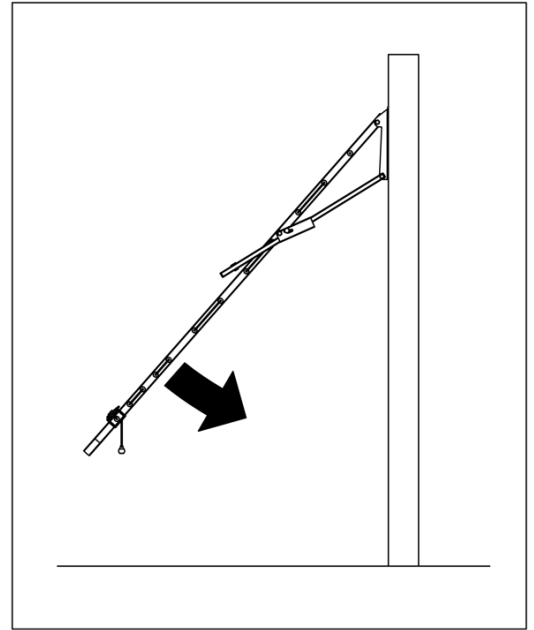

Fig 13. Lower the Clothesline.
- The clothesline can now be lowered all the way. (Fig.13)